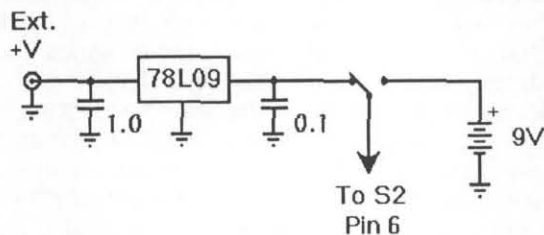

figure 3
In order to allow use of an external source of DC power, I added a 2.5 mm DC power jack and SPDT switch on the back panel above the battery holder. I used an LM78L09 voltage regulator, as shown in Figure 3, to allow any source of DC between about 11 V and 24 V capable of supplying at least 10 mA to be used. The voltage regulator and two bypass capacitors were mounted "spider web" style on the back of the power jack.
15. If you are adding an external power connector, install it, a SPDT switch, LM78L09, etc. on the rear panel (see Figure 3).